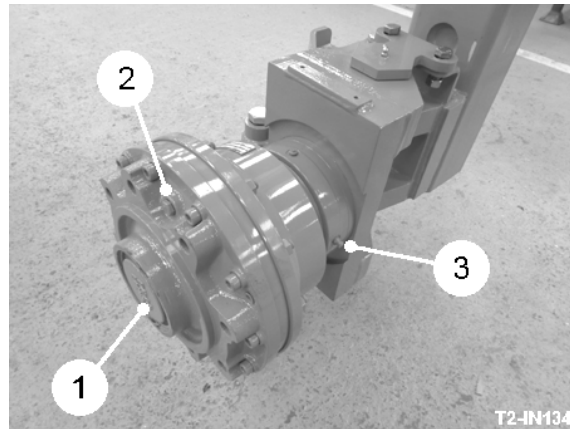

Fig 41
Place the wheel motor (item 1, fig 41) in a position in which the filler plug (item 2, fig 41) is at the top. Remove the plug and pour in hydraulic oil until all trapped air has been eliminated. Refit the plug and repeat for the second motor. Run the motors unloaded. Finally, operate the motors under load and check for leaks and extraneous noise.
To purge dirt from the grease collar remove one of the grease nipples (item 3, fig 41) completely and pump grease into the other nipple until clean grease comes out of the open hole. Finally, refit the nipple to close the system.